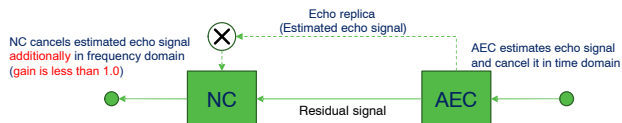

Figure 2. Time Domain Mode
a) Time domain mode (Figure 2)